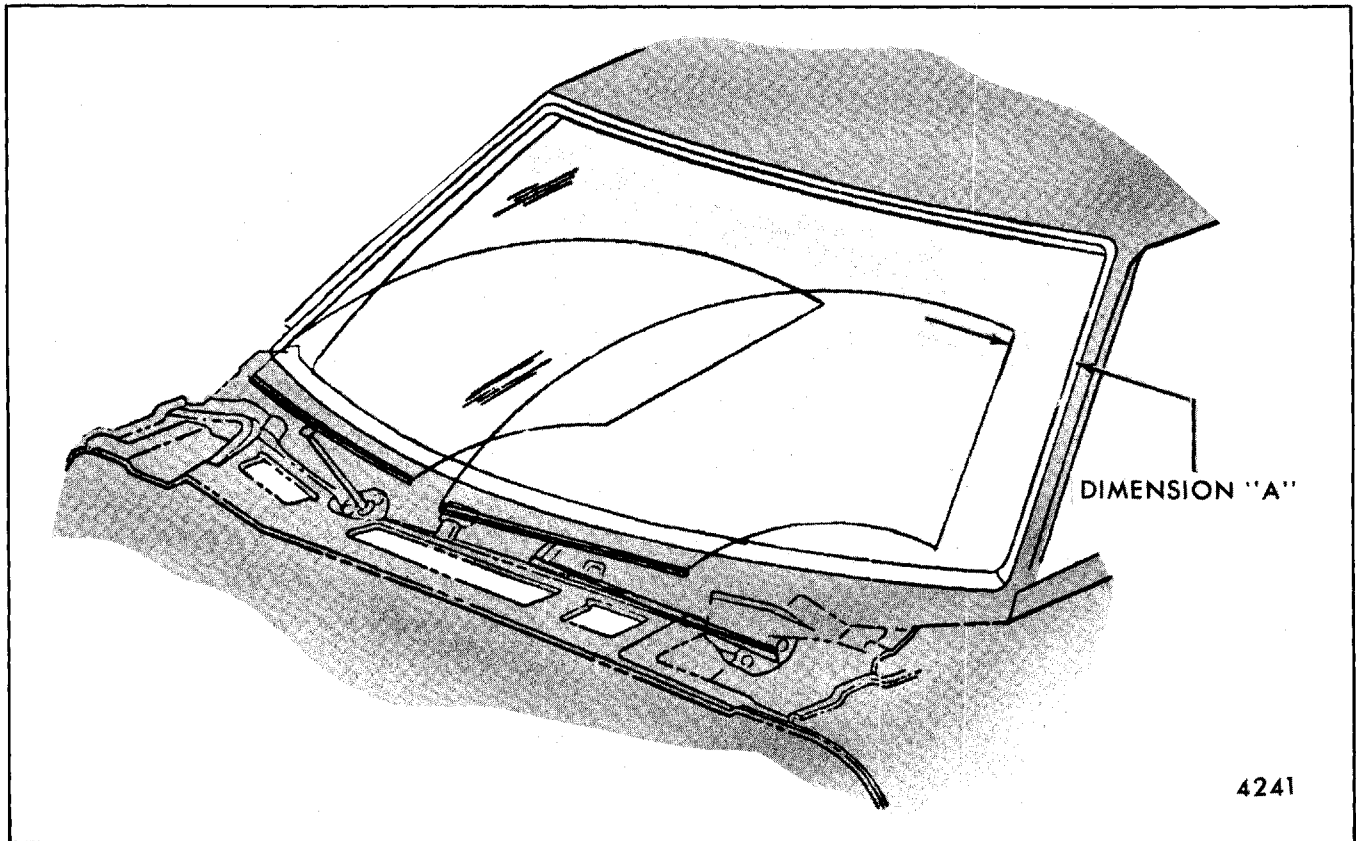

Fig. 2-61-Wipe Pattern
8. Check wipe pattern and park position. Dimension A as shown in Figure 2-61 for various body styles is as follows: